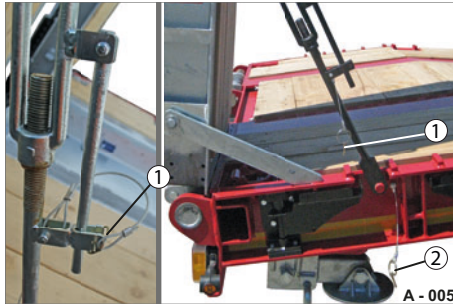

Fig. 4 Turnbuckle released
- Remove the safety splint pin (Fig. 4/1) on the tensioning lever.
- Remove the safety splint pin/spring pin (Fig. 4/2) on the lower pin.